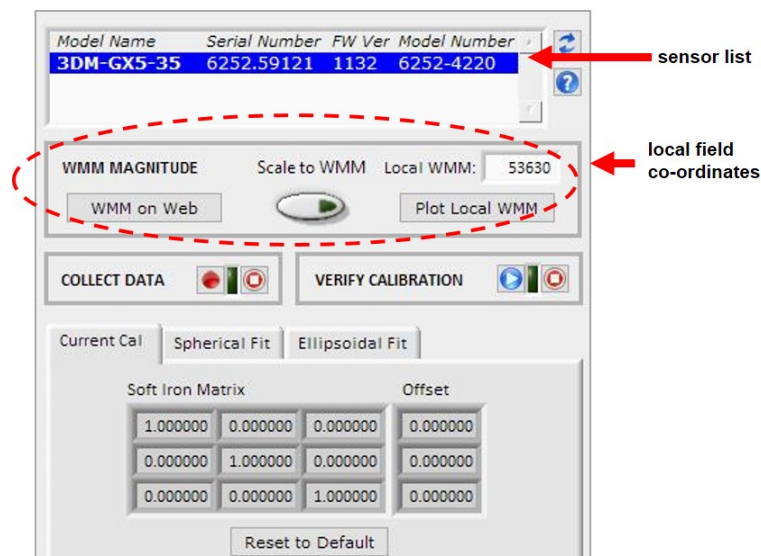

Figure 20 -Sensor Menu
- The sensor should automatically appear in the sensor list. If not, use the Refresh button to query it and then select the sensor (Figure 20 - Sensor Menu).